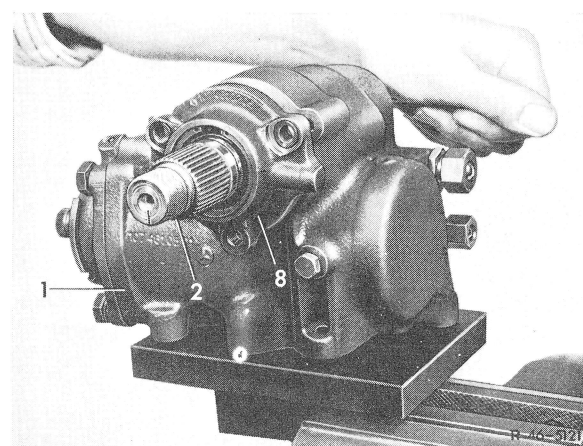

Fig. 35
35 Turn housing cover (8) so that both oil ducts are one above the other. Then screw-in hex. bolts with new high-tension snap rings and tighten to 30–35 Nm (3–3.5 kpm) (Fig. 35).